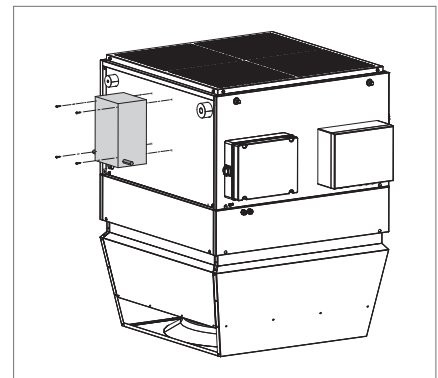

Fig. 25: Installing the EEV kit Q
- Screw the EEV kit Q to the TopVent® unit as shown in Fig. 25.